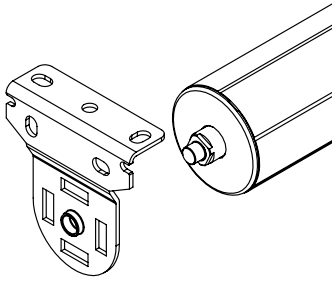

Figure 11A. End Pin Bracket
Step 8. To install, insert the pin on the end plug into the center hole of the wall bracket shown in **Figure 11A**. While putting pressure on the spring pin, install the motor end onto the other bracket. The spring pressure will allow the tabs on the motor end to seat into the bracket as shown in **Figure 11B**.